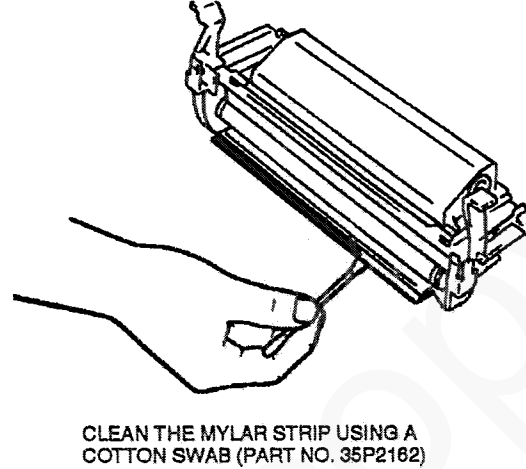

Figure 3. Mylar strip cleaning
7. (Figure 3) Clean the mylar strip at the base of the developer unit.